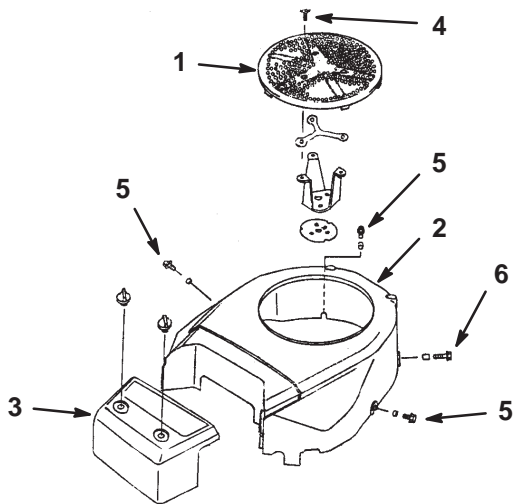

Figure 31
2. Remove the air intake screen, air cleaner cover, fan housing, and bolts (Fig. 31).
4. Reinstall the air intake screen, air cleaner cover, fan housing, and bolts (Fig. 31). Torque the bolts to 4.3 ft-lb (5.8 N·m).